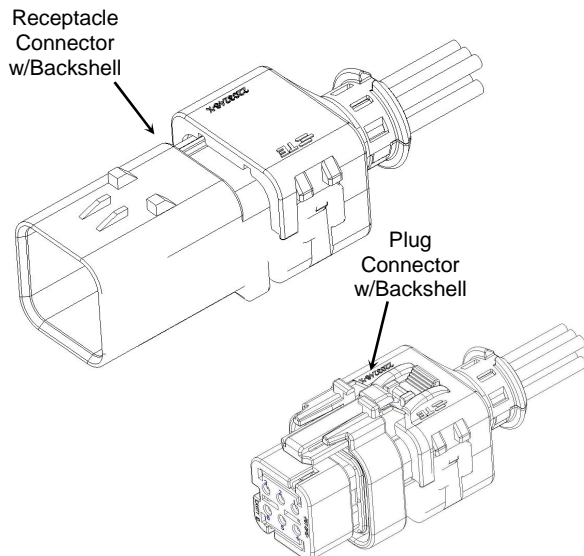

Figure 5
- The complete AMPSEAL 16 Backshell with connectors is shown in Figure 5.